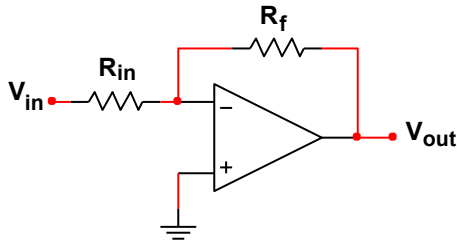

Figure 1.1 – Inverting Amplifier
1. **Build the Inverting Amplifier** according to your prelab design and **Figure 1.1**.